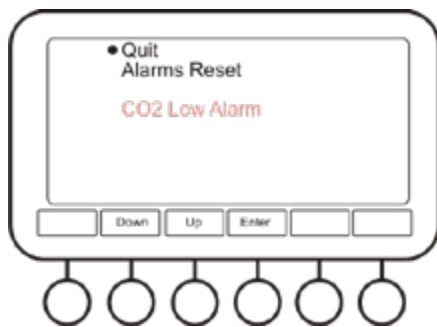

Fig. 11. Active Alarms menu
4.9.4. **Active Alarms** (fig. 11). This option allows user to view and reset the list of active alarms. See **Fault diagnostics** section, p. 5.5., for a list of possible alarms.